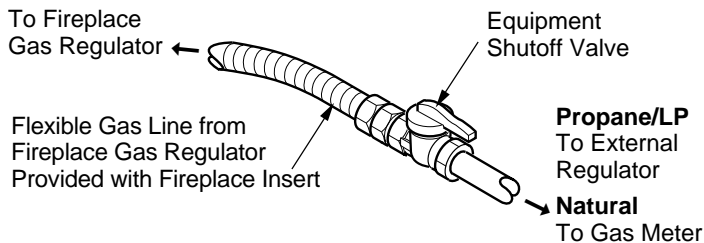

Figure 16 - Attaching Flexible Gas Lines Together
**NOTICE: Most building codes do not permit concealed gas connections. A flexible gas line is provided to allow accessibility from the fireplace (see Figure 16). The flexible gas supply line connection to the equipment shutoff valve should be accessible.**
4. Connect gas supply line to flexible gas line attached to gas regulator of fireplace insert (see Figure 16). Use sealant on all male pipe threads.